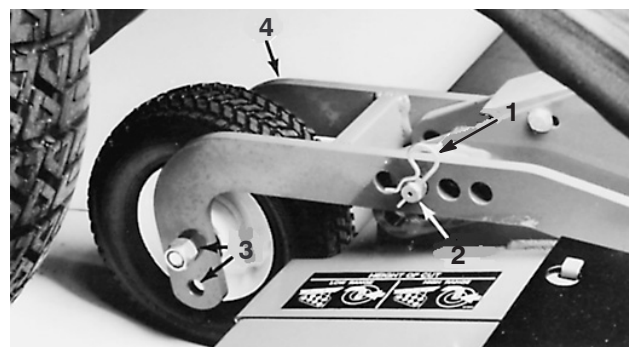

Figure 13
3. On the front cutting unit, remove the hairpin cotter and clevis pins from the rear castor pivot arms (Fig. 13). Align the pivot arm holes with selected height-of-cut bracket holes in the deck frames, insert clevis pins and install the hairpin cotters (Fig. 13).